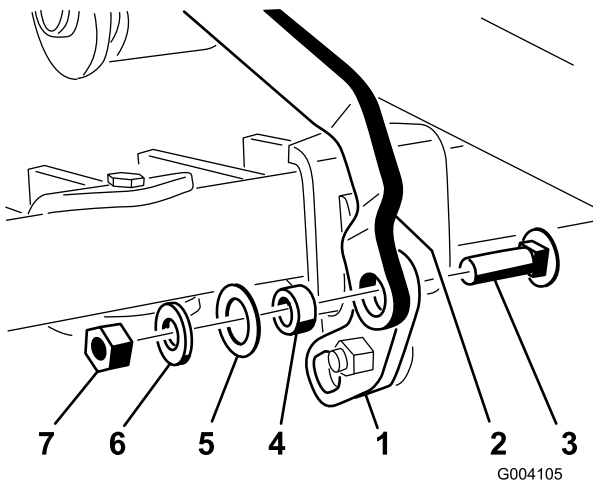

Figure 15
- With the lift pedal assembly knee bent upwards, install the square hole on the pivot tab to the end of the toolbar link using a carriage bolt (3/8 x 1-1/4 inches), spacer, washer (1 inch), washer (13/16 inch), and locknut (3/8 inch) as shown in Figure 15.